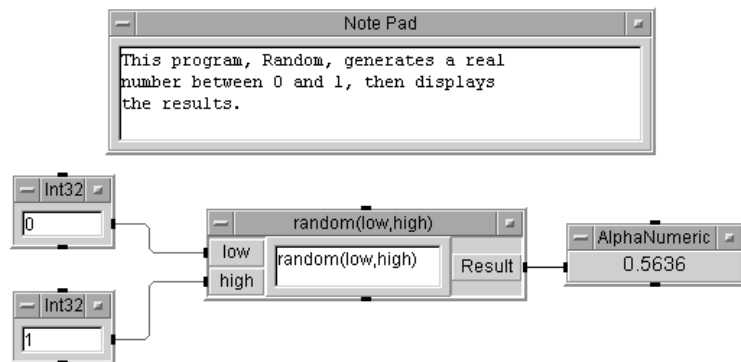

Figure 72 The Random Program
- 6 Click the Run button on the tool bar, and you will see a random number displayed as shown in Figure 72.